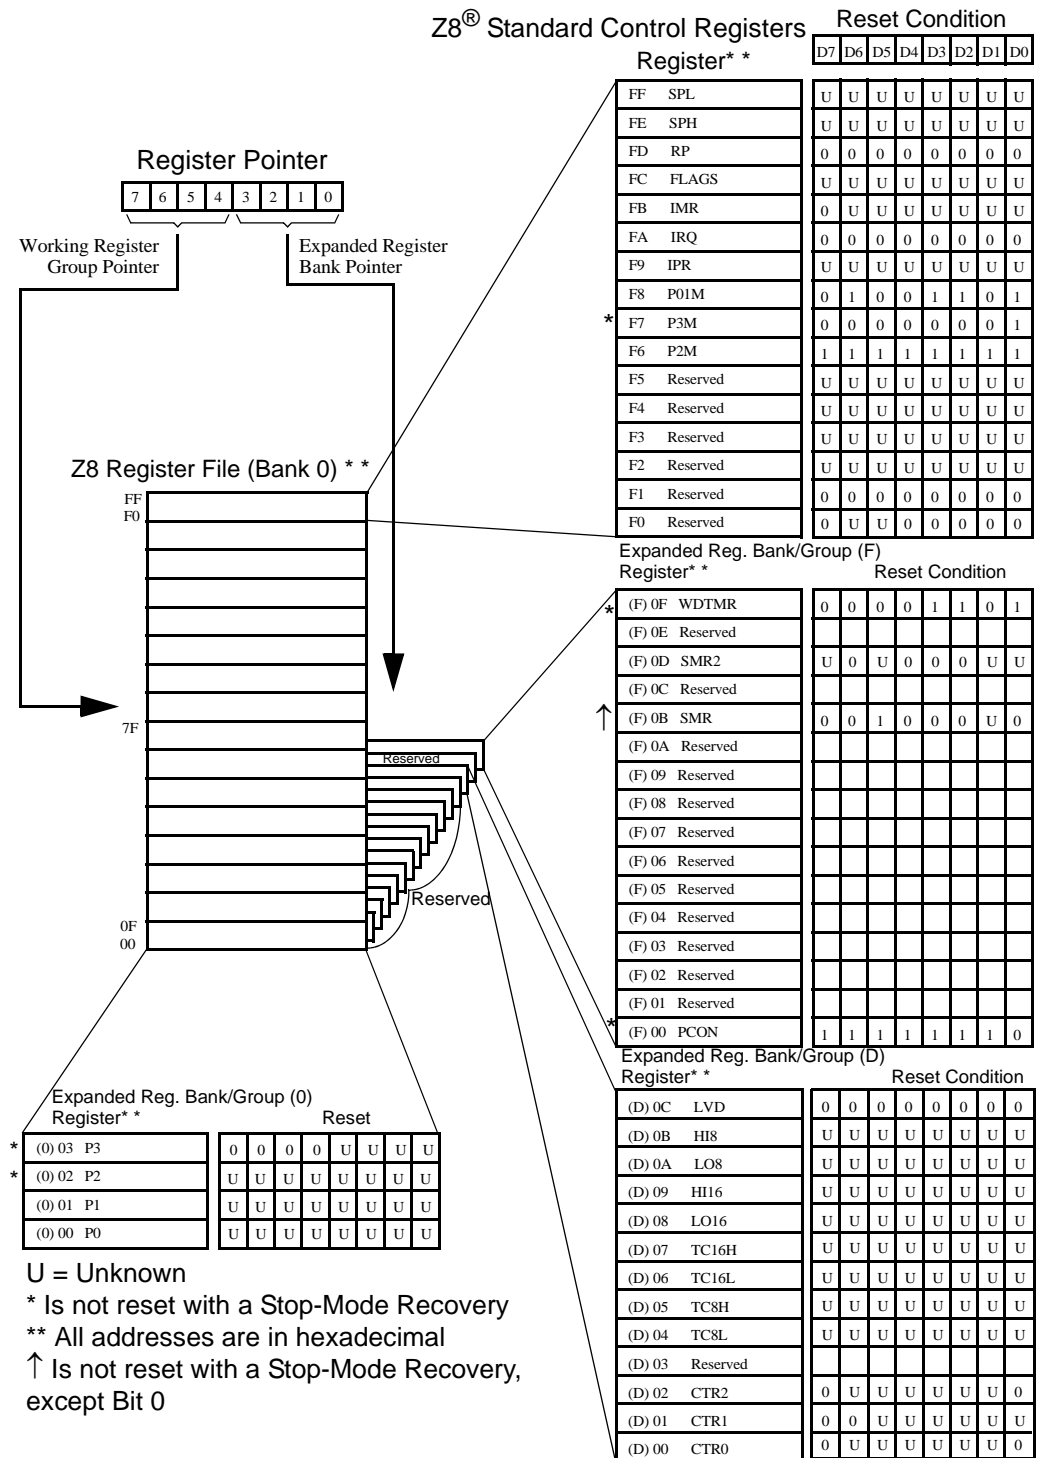

Figure 11. Expanded Register File Architecture
- ▶ **Note:** An expanded register bank is also referred to as an expanded register group (see Figure 11).
Example: Z86L81/86/98: (See Figure 11 on page 24)